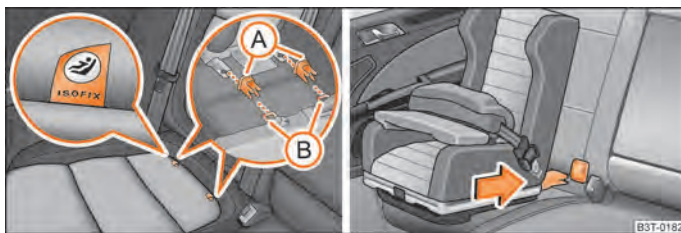

Fig. 159 Locking eyes (ISOFIX system)/the ISOFIX child seat is pushed into the mounting funnels
- Push the notched arms of the child seat into the locking eyes until they are heard to lock in place ⇒ fig. 159 - right.
There are two fixing eyes between the backrest and the seat of the front passenger as well as on the rear exterior seats for fixing the "ISOFIX" system child seat in place. On seats where the fixing eyes are not visible, the places which have eyes are marked with signs with the "ISOFIX" logo ⇒ fig. 159 - left.
- Insert the mounting funnels (A) ⇒ fig. 159 onto the locking eyes (B) between the seat backrest and the seat cushion.